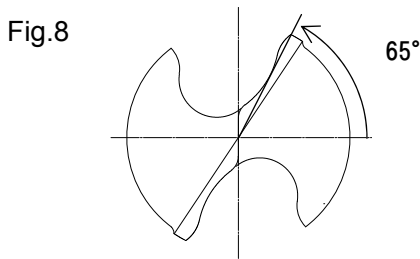

Fig.8
- Then, as shown in **fig.8**, rotate the drill counter clockwise 65° when seen from the top.